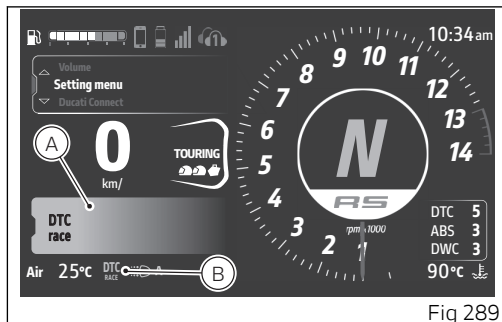
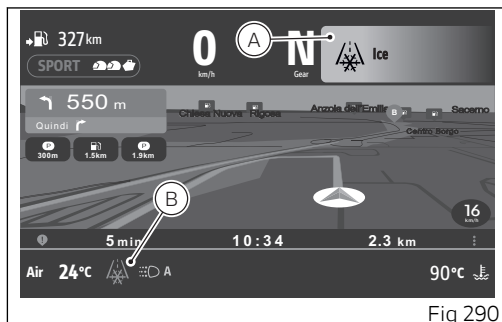

Fig 289
Fig 290
Active warnings or alarms are displayed in 2 modes: big (A) and small (B). These figures indicate the corresponding positions in the main page (Fig 289) and in the Ducati Connect page (Fig 290). In the following figures, the warnings are shown on the left in the large version and on the right in the small version.